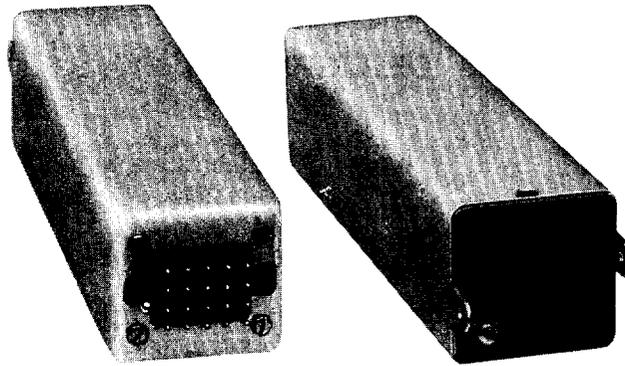

Fig. 1—648A Filter
2.01 The 648A filter (see Fig. 1) consists of capacitors and inductors mounted on a printed-wiring board and housed in an aluminum can. The filter is approximately 1-3/4 inches wide, 1-3/4 inches high, and 7 inches long. It is a plug-in unit equipped with a 20-pin connector which plugs into a connector socket on the 24V4C repeater mounting shelf or other equipment socket. Tabs are provided on the front of the can so that the filter can be removed from its connector socket by the use of a 602C or 602D tool. A screw-type switch mounted on the filter faceplate provides